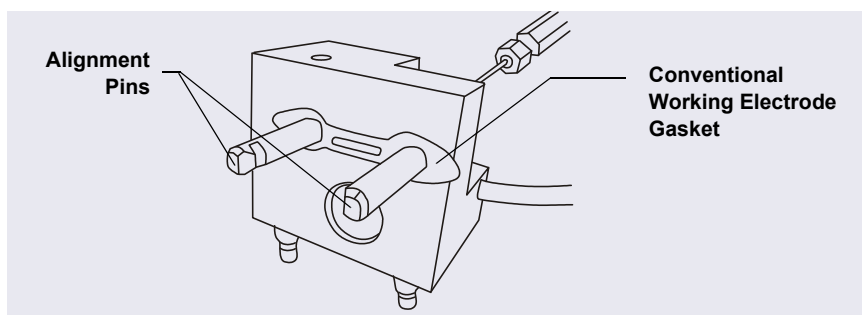

Figure 10-62. ED Cell Gasket for Conventional Working Electrodes
- Use tweezers to remove the old cell gasket from the cell body (see Figure 10-62).